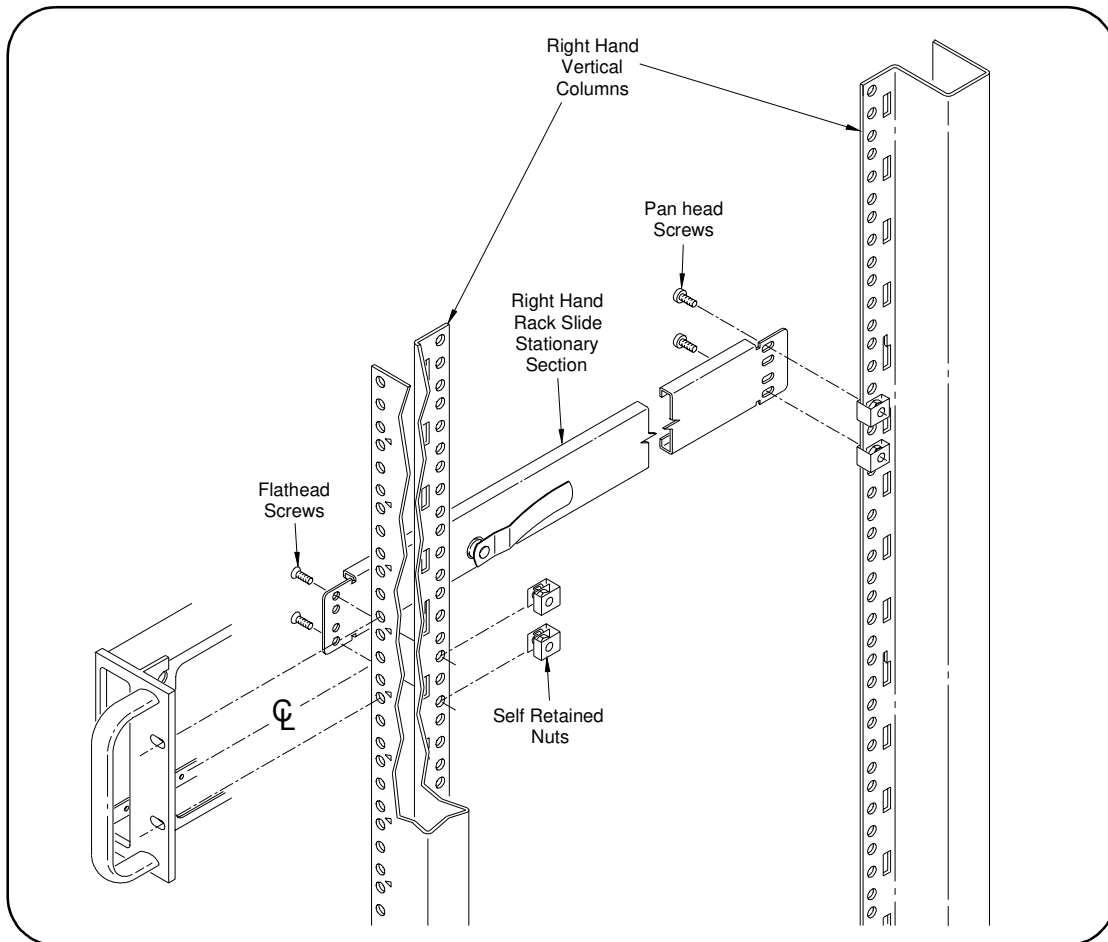

Figure 2-10. Installing Rack Slide Stationary Sections
Install Rack Slide Stationary Sections (Figure 2-10)
- 1 Slide four 10-32 Self-Retained Nuts on the selected holes in the right hand vertical column of the cabinet. See Figure 2-10 for hole locations.